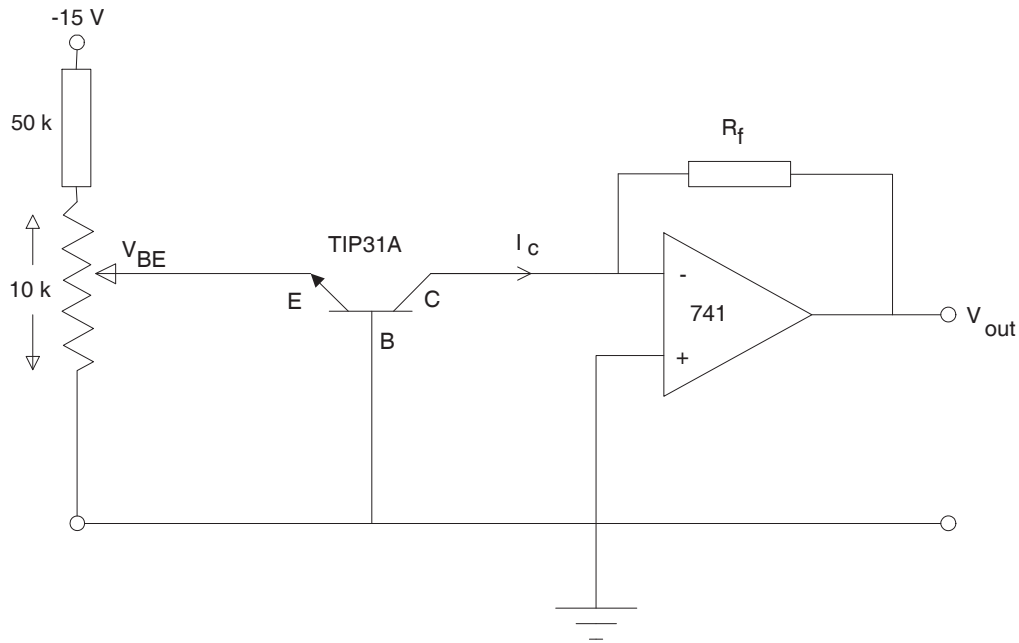

Figure 4: Circuit used to determine Boltzmann's constant.
The transistor used in this experiment is a TIP31A npn power transistor. Because the emitter is n -type and the base is p -type the base-emitter voltage $V_{BE} = V_B - V_E$ must be positive to forward bias the base-emitter junction. Because the base is held at 0, V_E must be negative. The circuit used in this experiment is shown in Fig. 4. You will need to build the op-amp current detection circuit and you will also need to supply a variable negative voltage to the emitter of the transistor. One possible method using a variable resistor is shown in the figure. Typical emitter voltages that you will use are ≈ -0.5 V.
1. Begin by constructing the circuit shown in Fig. 4. Ensure that all power supplies are turned off when making electrical connections to the op-amp circuit. Don't forget that the op-amp needs ± 15 V supplies!